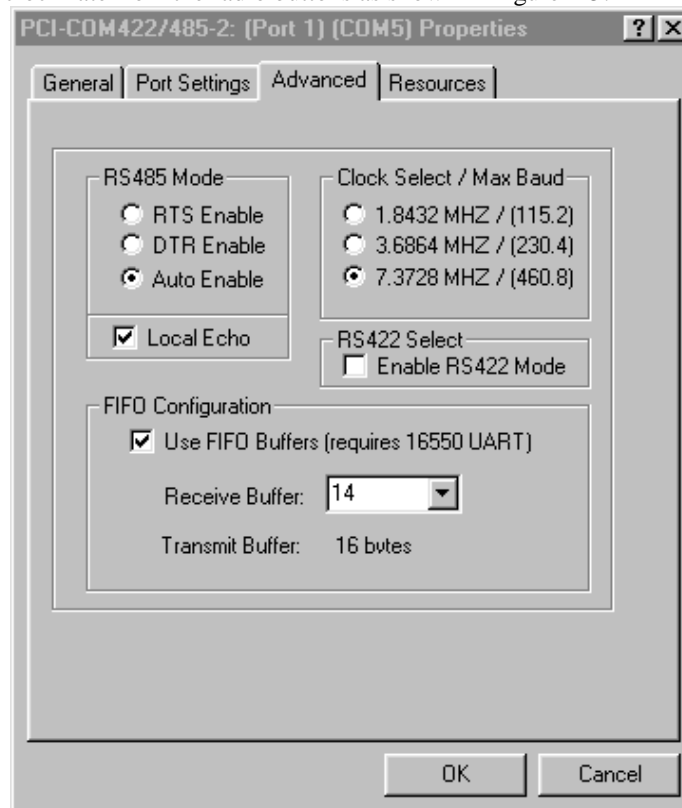

Figure 2-5. PCI-COM422/485 (Port1) (COM3) Properties Screen Display
7. Select the desired UART clock rate from the radio buttons as shown in Figure 2-5: